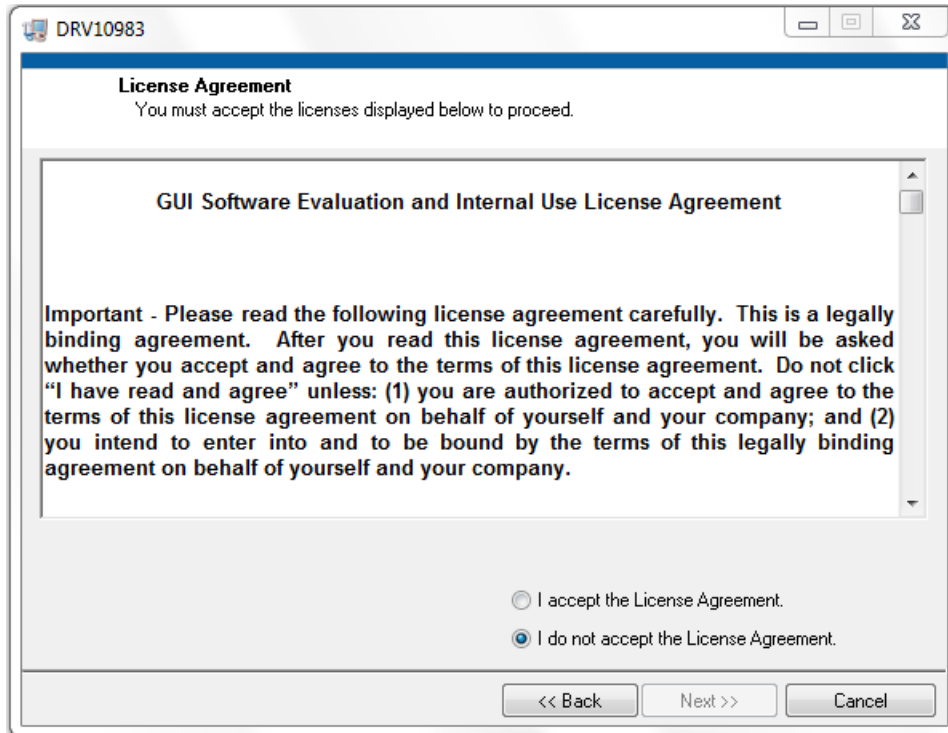

Figure 13. GUI License Agreement
4. The *License Agreement* screen appears as shown in Figure 13. Read through the agreement carefully and enable the “I Accept the License Agreement” radio button, then press the *Next»* button.